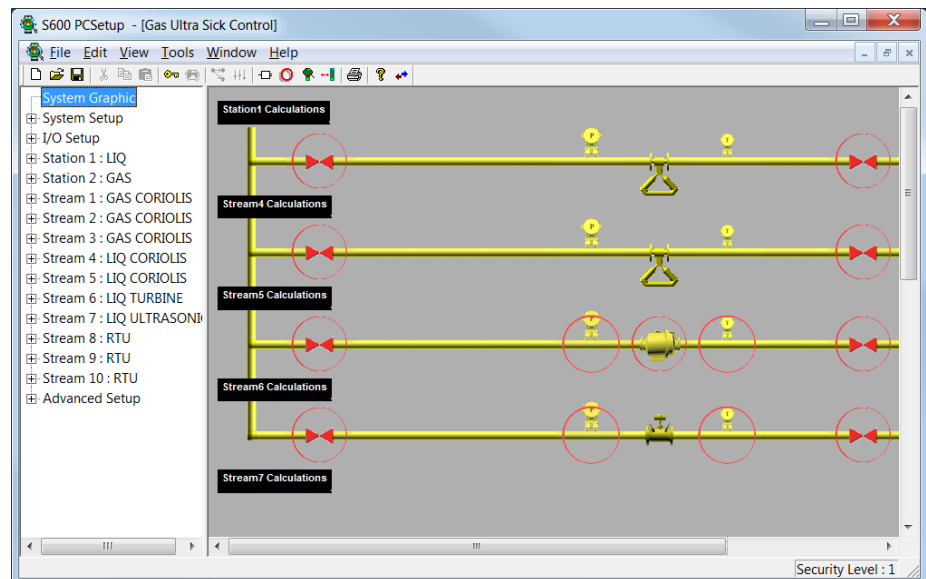

Figure 2-16. Example System Graphic
4. When the process completes, the S600 PCSetup screen redisplay, showing a graphic representation of your configuration. (Figure 2-16 is an example graphic):